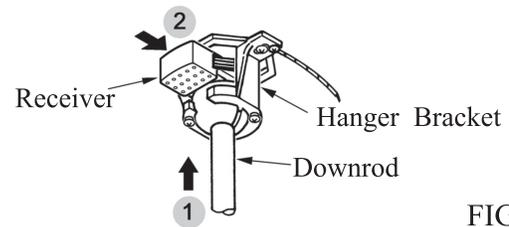

FIG.7
2. Carefully lift the fan and seat the down rod ball assembly on the hanger bracket. Be sure the groove in the ball is lined up with tab on the hanger bracket. Do not pinch wires between the ball and down rod assembly and hanger bracket. (See fig.7)